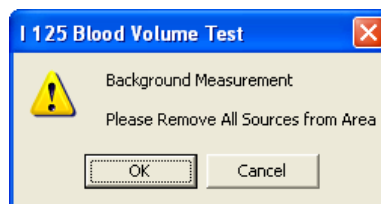

Figure 10-40
4. First, the screen prompts you to measure background counts as shown in Figure 10-40.
click the **No** button or press the N key. The screen shown in Figure 10-40 will appear.